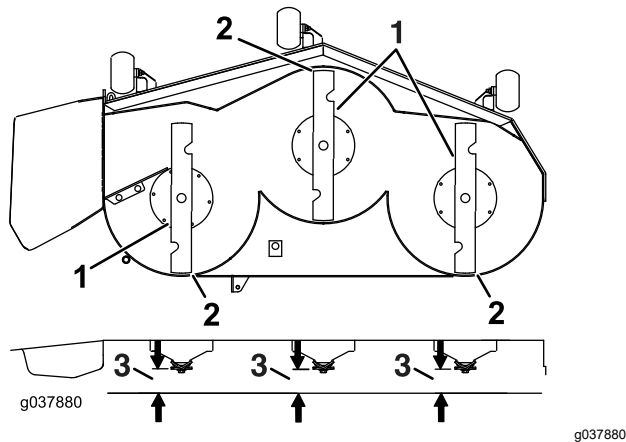

**Figure 106**
6. Measure between the blade tip and the flat surface (Figure 106). If both measurements are not within 5 mm (3/16 inch), adjust the leveling; continue with this procedure.
14. Carefully rotate the blades side to side (Figure 106).